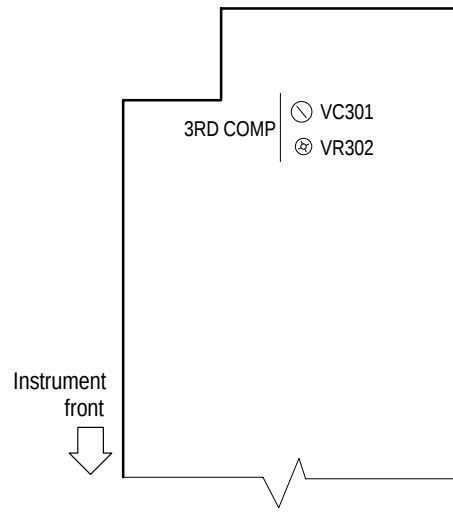

Figure 9: Power and High Voltage Board (Viewed from the Instrument Bottom)
6. Adjust VR302 and VC301 to optimize the waveform flatness. See Figure 9 for the adjustment location.